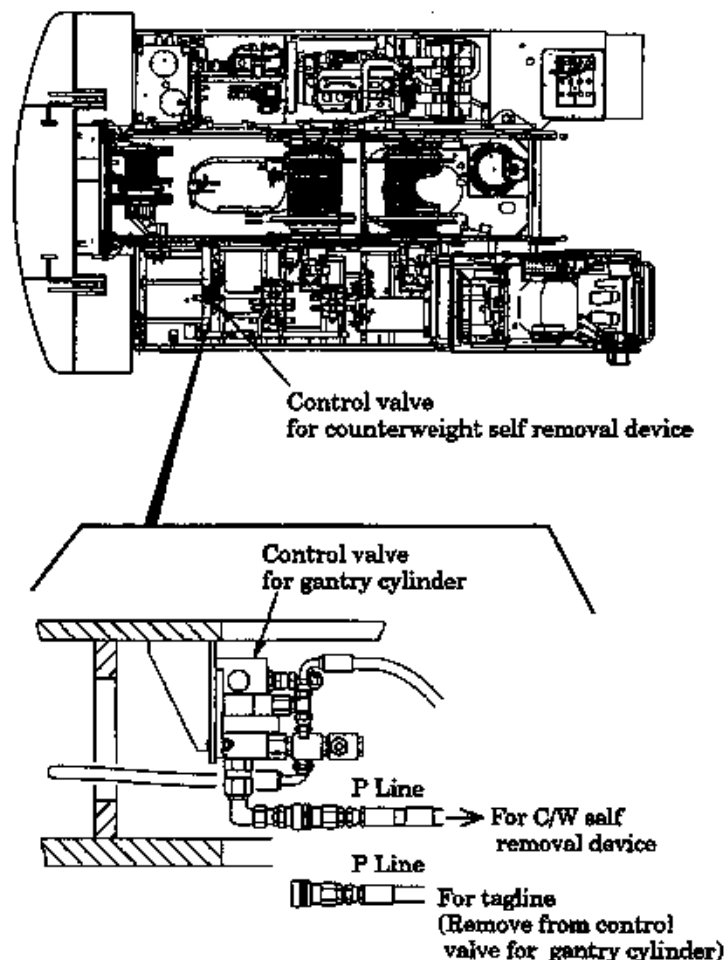

Fig 5-7
- (1) If the hydraulic tagline (optional) is equipped, replace the P line coupler for tagline with that for the counterweight self removal device (Fig. 5-7). Check that the P line coupler is securely connected.
- (4) If the hydraulic tagline (optional) is equipped, switch the P line coupler to the original connections (See Fig. 5-7).